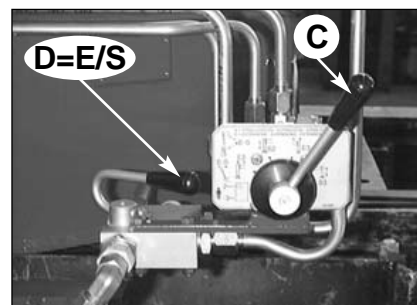

fig. 27
- Position lever **D** of oil diverter crane-outriggers (⚙️ - **E/S**) on **E/S**. (fig. 27)
- Position lever **D** of oil diverter crane-outriggers (☺ - **E/S**) on **E/S** (fig. 27)